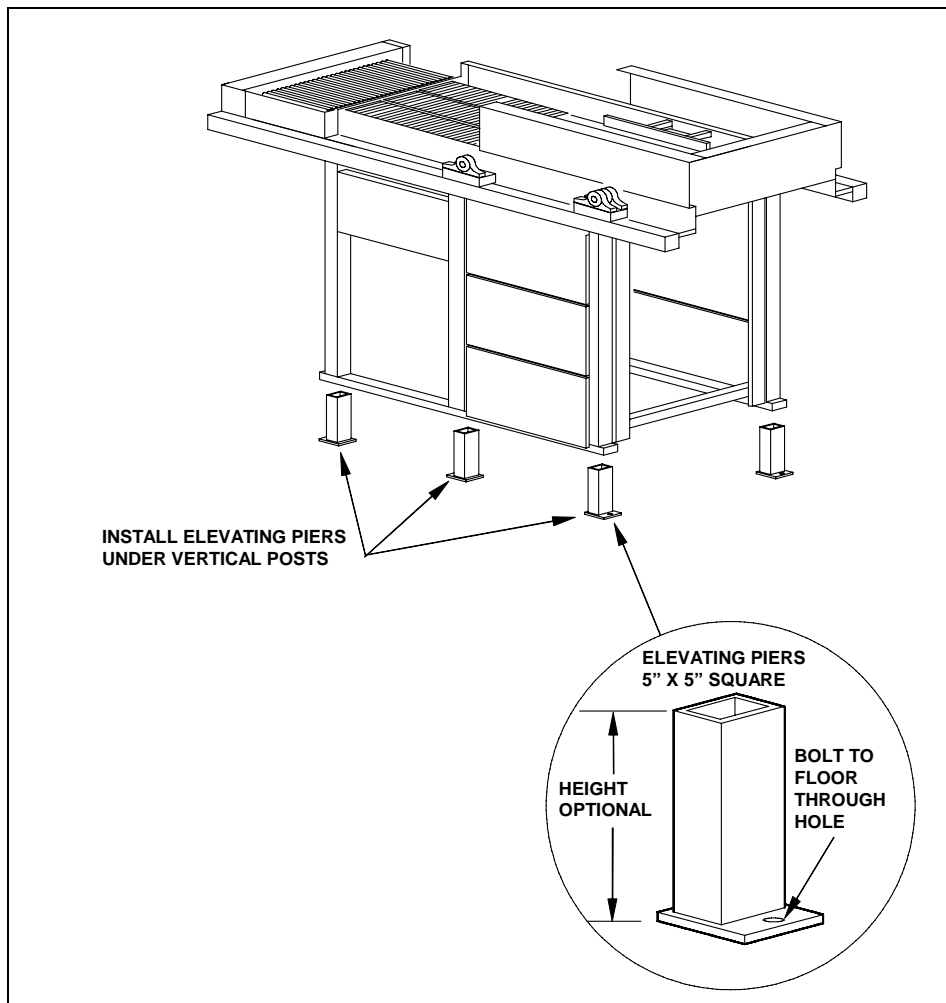

Figure 6-4: Elevating Piers (Optional Height)
- a) Lift the machine to remove the dollies and locate the 5"x 5" square elevating piers under the base frame at each vertical post location as shown on the project layout drawings. (See Figure 6-4)